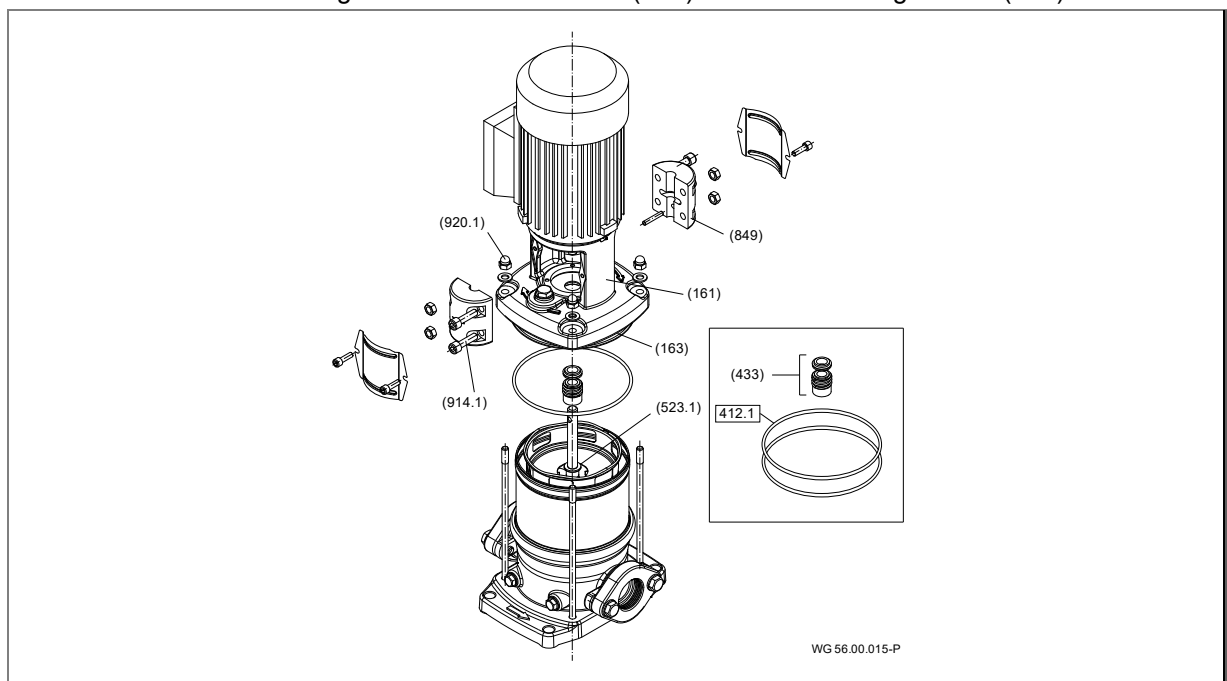

Fig. 15
See "Fig. 15" on page 30
- ➔ Observe figure 15.
- 2. Assemble the rotating unit of the mechanical seal (433) on the shaft (211).
- 3. Assemble the counter ring of the mechanical seal (433) in the pressure cover (163).
- 5. Assemble the discharge cover (163) on the pump's outer casing.
- 6. Put the drive lantern (161) on.